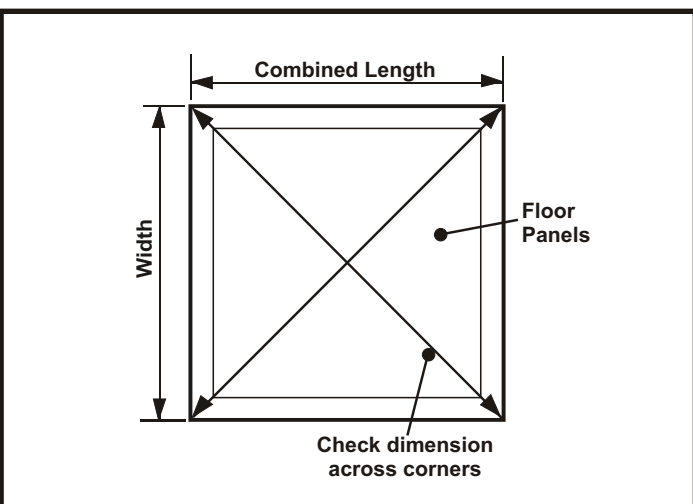

Fig. 10
- C. Mark the outside perimeter of the Shelter on the building floor. Check the area for squareness by measuring across the corners. See Fig. 10. Find the high point of this area, using a 48" spirit level. The entire Shelter floor must be level from this point. On Shelters larger than 10' x 10', a transit or builders level should be used.